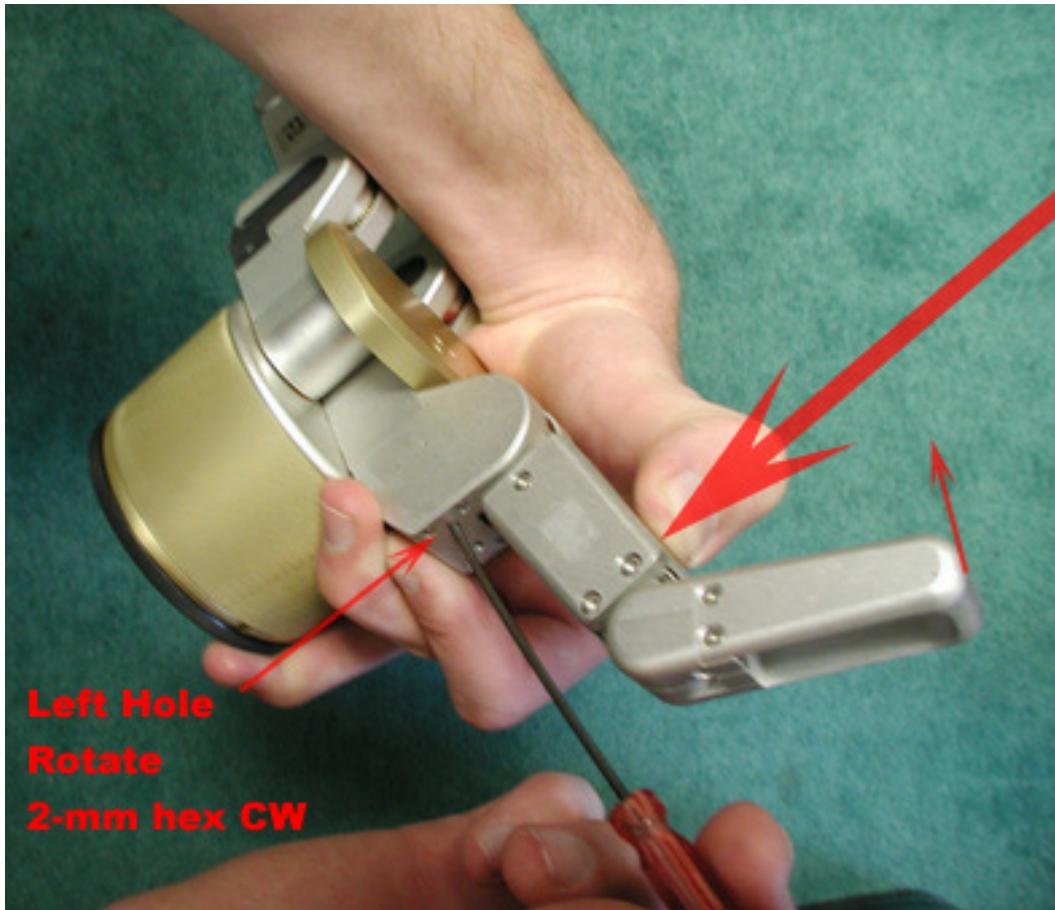
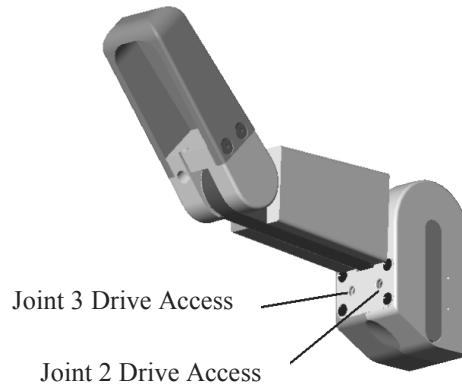

Figure 19 - Manual Torque Switch Activation
Figure 20 - Manual TorqueSwitch™ Activation Drive Holes
3. If the BarrettHand™ has been inactive for an extended period or if the finger has been slammed open against its stop with a high velocity setting, the TorqueSwitch™ may need to be manually activated. Insert a 2-mm hex wrench into the left Drive Access hole, as shown in Figure 20. Rotate counterclockwise to open the finger fully. Next, press very hard against the inner link to constrain it from moving while not constraining the outer link, as the person's thumb is doing in Figure 19, while torqueing the hex wrench clockwise. Increase torque until the fingertip breaks free, so that it can be rotated easily while the inner link remains stationary. Remove the 2-mm hex wrench and reinitialize the finger.